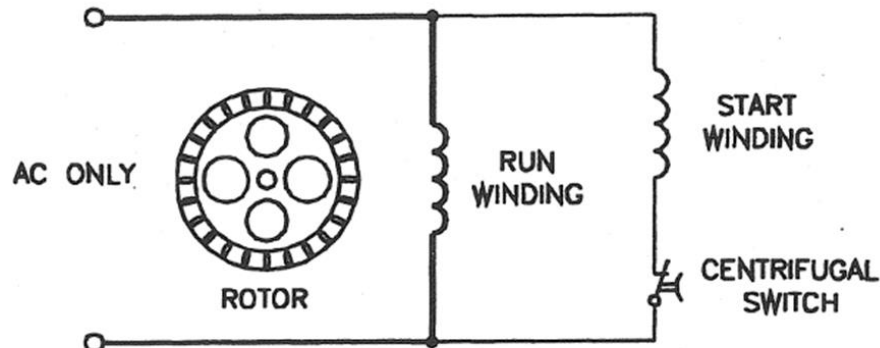

Figure 5 - Typical split phase motor connection.
14. In a typical split phase motor the start and run windings are connected in parallel across the single phase a.c. supply, and a centrifugal switch is connected in series with the START winding as shown in Figure 5.